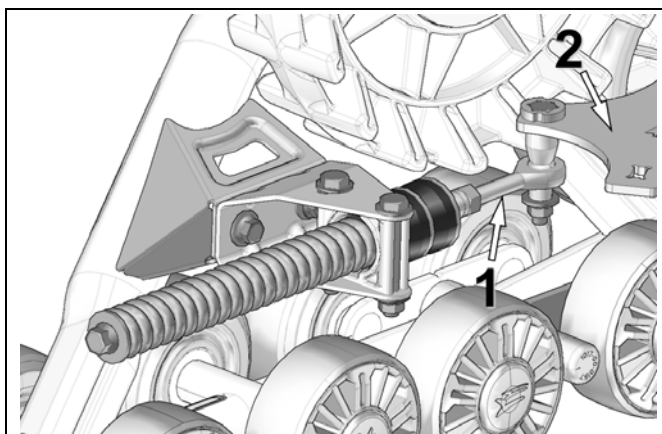

Figure 14
- Stabilizing arm (1) must be attached to the rear anchor bracket (2) installed on the vehicle. See Figure 14.